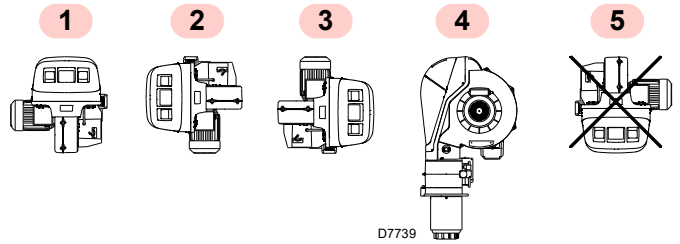

Fig. 14
- The burner is designed to operate only in positions 1, 2, 3 and 4 (Fig. 14).